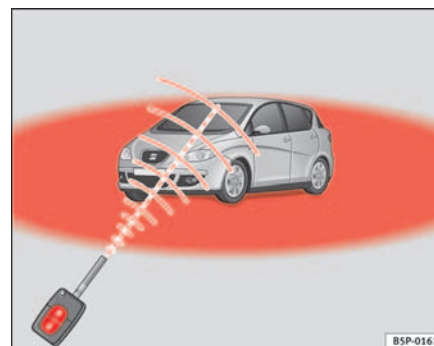

Fig. 65 Range of the remote control
- The remote control functions only when you are in range ⇒ page 100, fig. 65 (red area).
- If the vehicle is unlocked using the  ① button, the vehicle will be locked again automatically if any of the doors or the tailgate are not opened within 30 seconds of unlocking the vehicle. This function prevents the vehicle from remaining unlocked if the unlocking button is pressed by mistake.